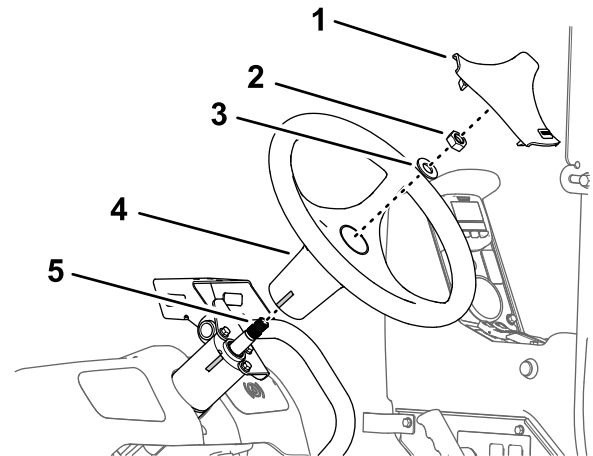

Figure 165
- Align the tape mark on the steering wheel to the tale mark on the housing of the steering valve (Figure 165).
- Assemble the steering wheel onto the shaft of the steering valve (Figure 165) with the washer (5/8 inch) and nut (5/8 inch) that you removed in